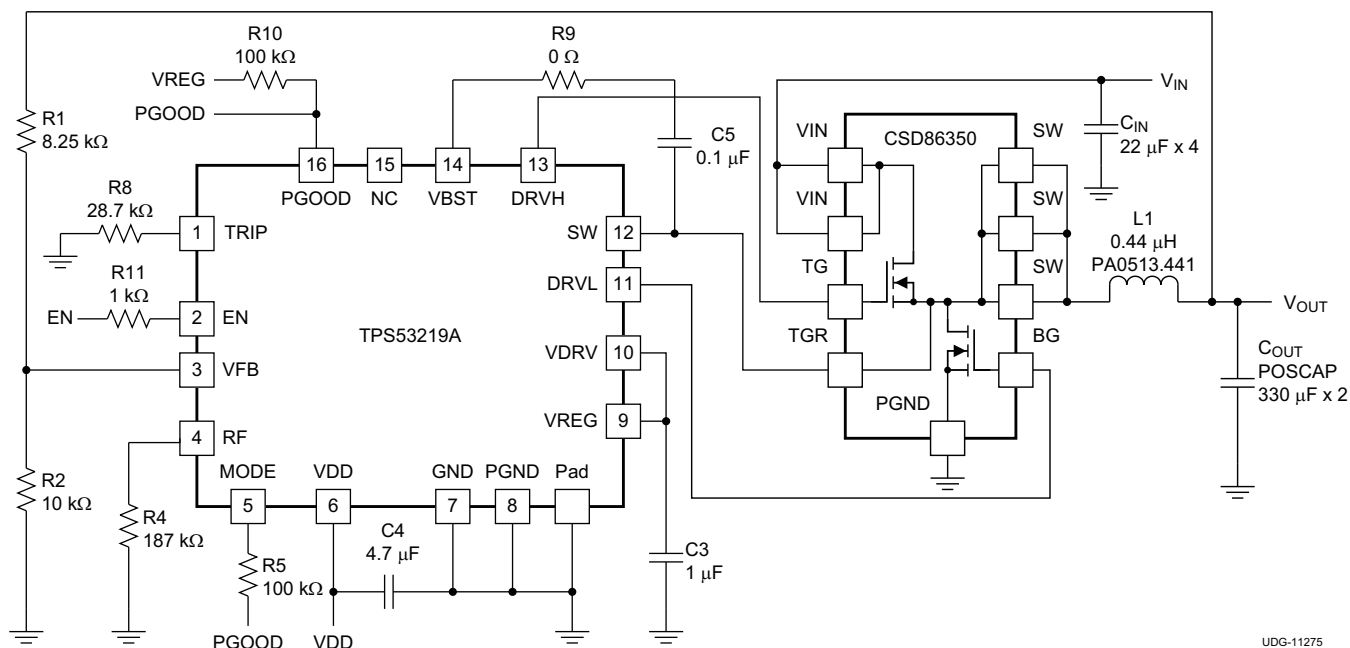
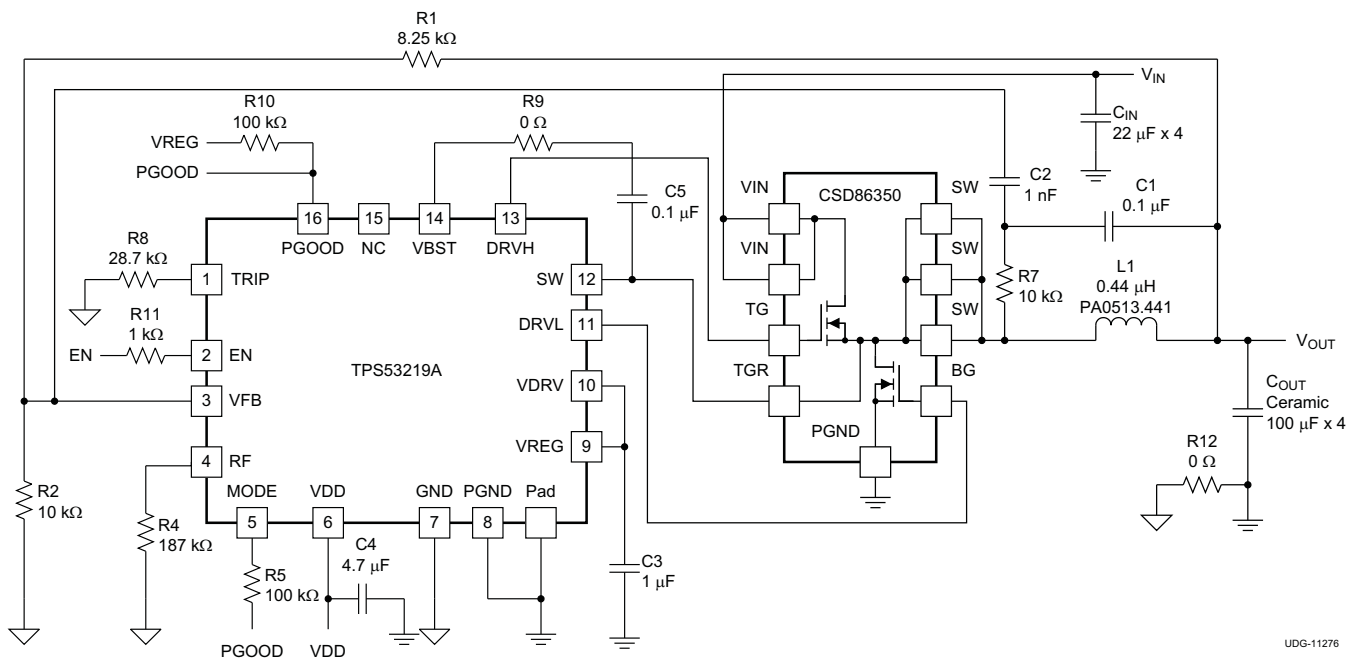

Figure 17. Typical Application Circuit Diagram with Power Block
Figure 18. Typical Application Circuit Diagram with Ceramic Output Capacitors
(1) Not production tested. Test conditions are V_{IN} = 12 V, V_{OUT} = 1.1 V, I_{OUT} = 10 A and using the application circuit shown in Figure 17 and Figure 18.
(2) Ensured by design. Not production tested